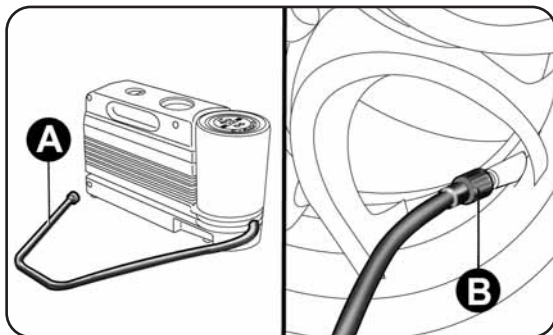

fig. 125
- apply the handbrake, loosen the cap from the tyre inflation valve, extract the flexible tube A-fig. 125 and screw ring nut B onto the tyre inflation valve;